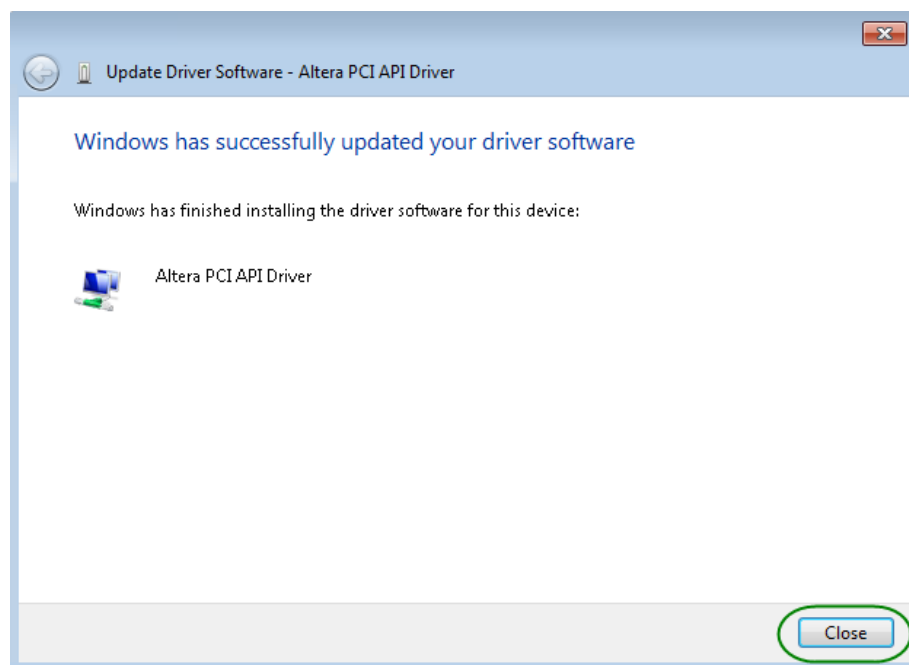

Figure 4-7 Click Close when the installation of Altera PCI API Driver is complete
11. When the driver is installed successfully, the successfully dialog will appear, as shown in Figure 4-7. Click the **Close** button.